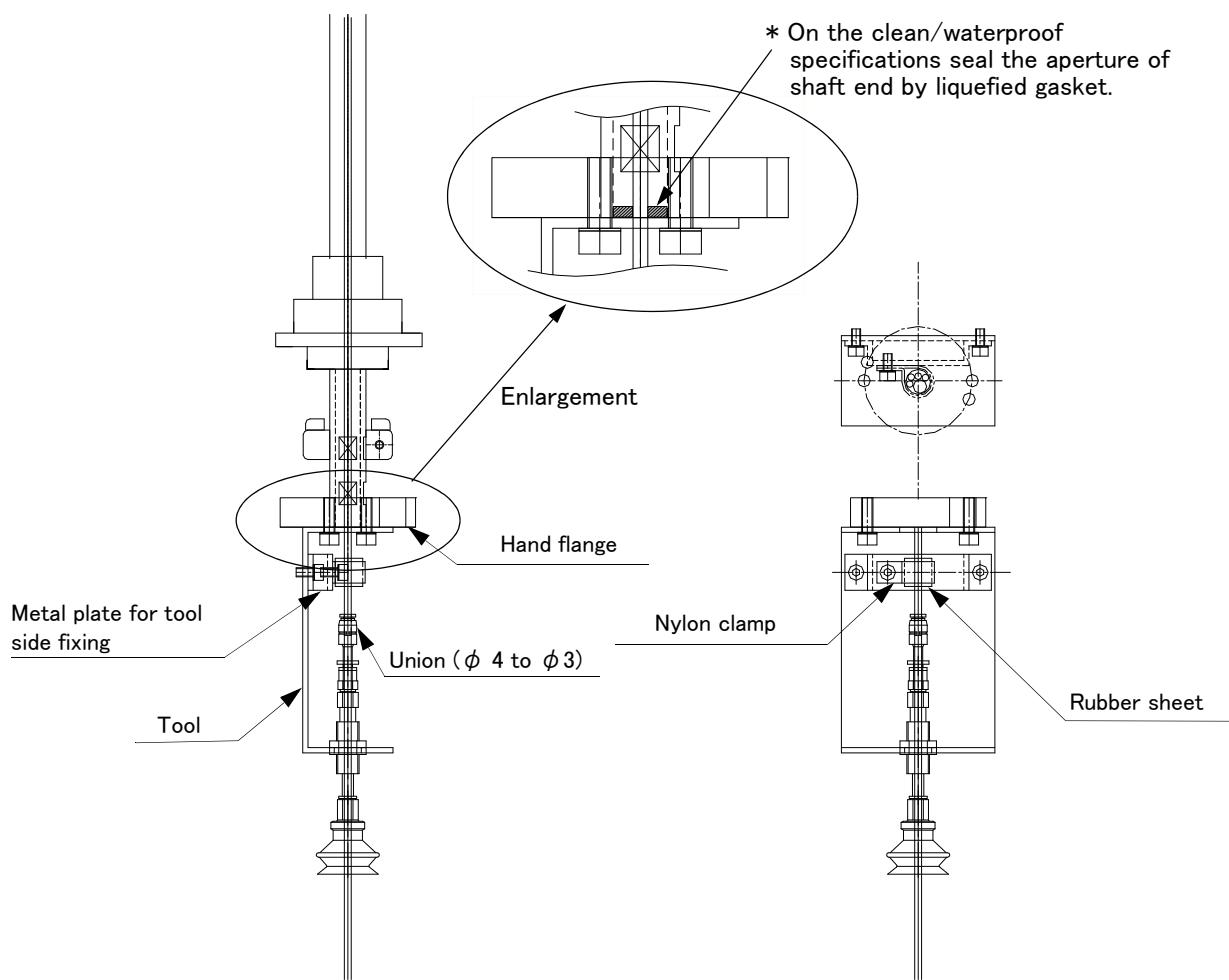

Fig.3-10 : Tool side fixing image of hand tube (example)
- 8) At the tool side of customer preparation should roll the rubber sheet (attachments) in the same way, and fix it by cable tie etc (attachments) with maintaining this adjustment position. The example of the fixing method is shown in Fig. 3-10.
- 9) At the tool side of customer preparation should roll the rubber sheet (attachments) in the same way, and fix it by cable tie etc (attachments) with maintaining this adjustment position. Fixing like the fixing method shown in Fig. 3-10.